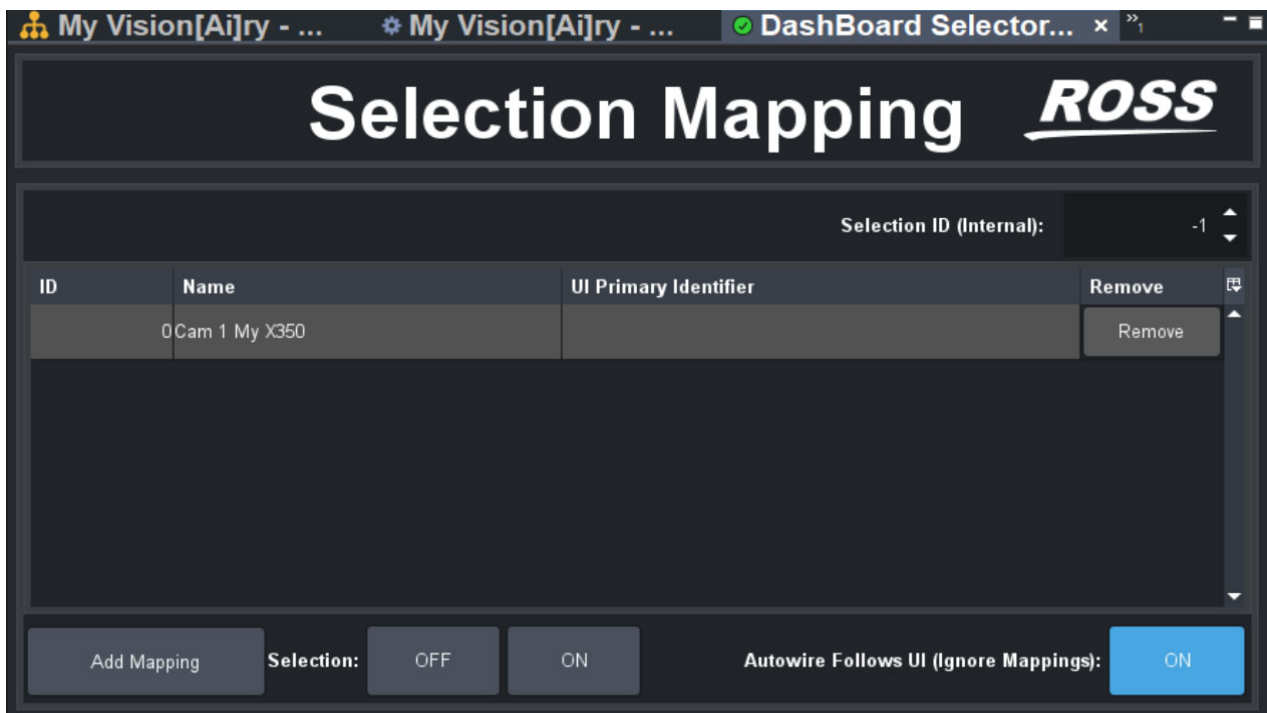

Figure 47 - Mapping Selector IDs to PT Head Control Plugins
- d. For **UI Primary Identifier**, navigate to **Remote Control** for the camera to be selected, as shown in Figure 47, and then double-click it.